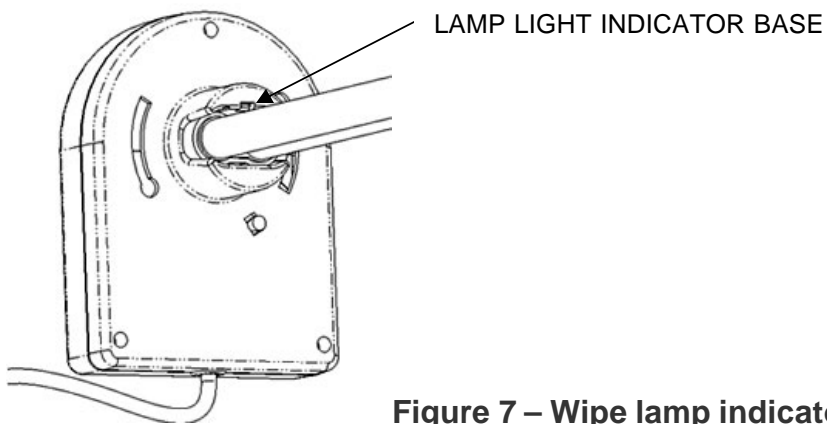

Figure 7 – Wipe lamp indicator base
5. Also wipe away any dust that may have collected between the lamp light indicator on the base and the black bulb base. See Figure 7.